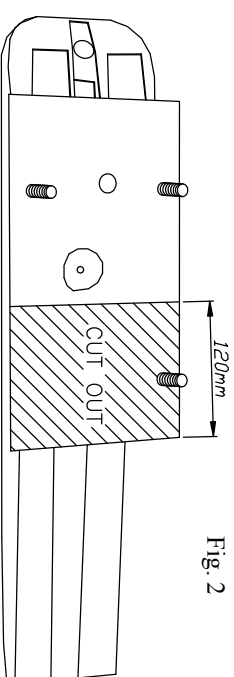

Fig. 2
3. Disassemble the bumper together with its aluminum reinforcement. Remove the adjustment wedges at the left and right (will not be assembled again). Cut out fragments inside of the bumper in accordance with fig. 2 (left and right side).